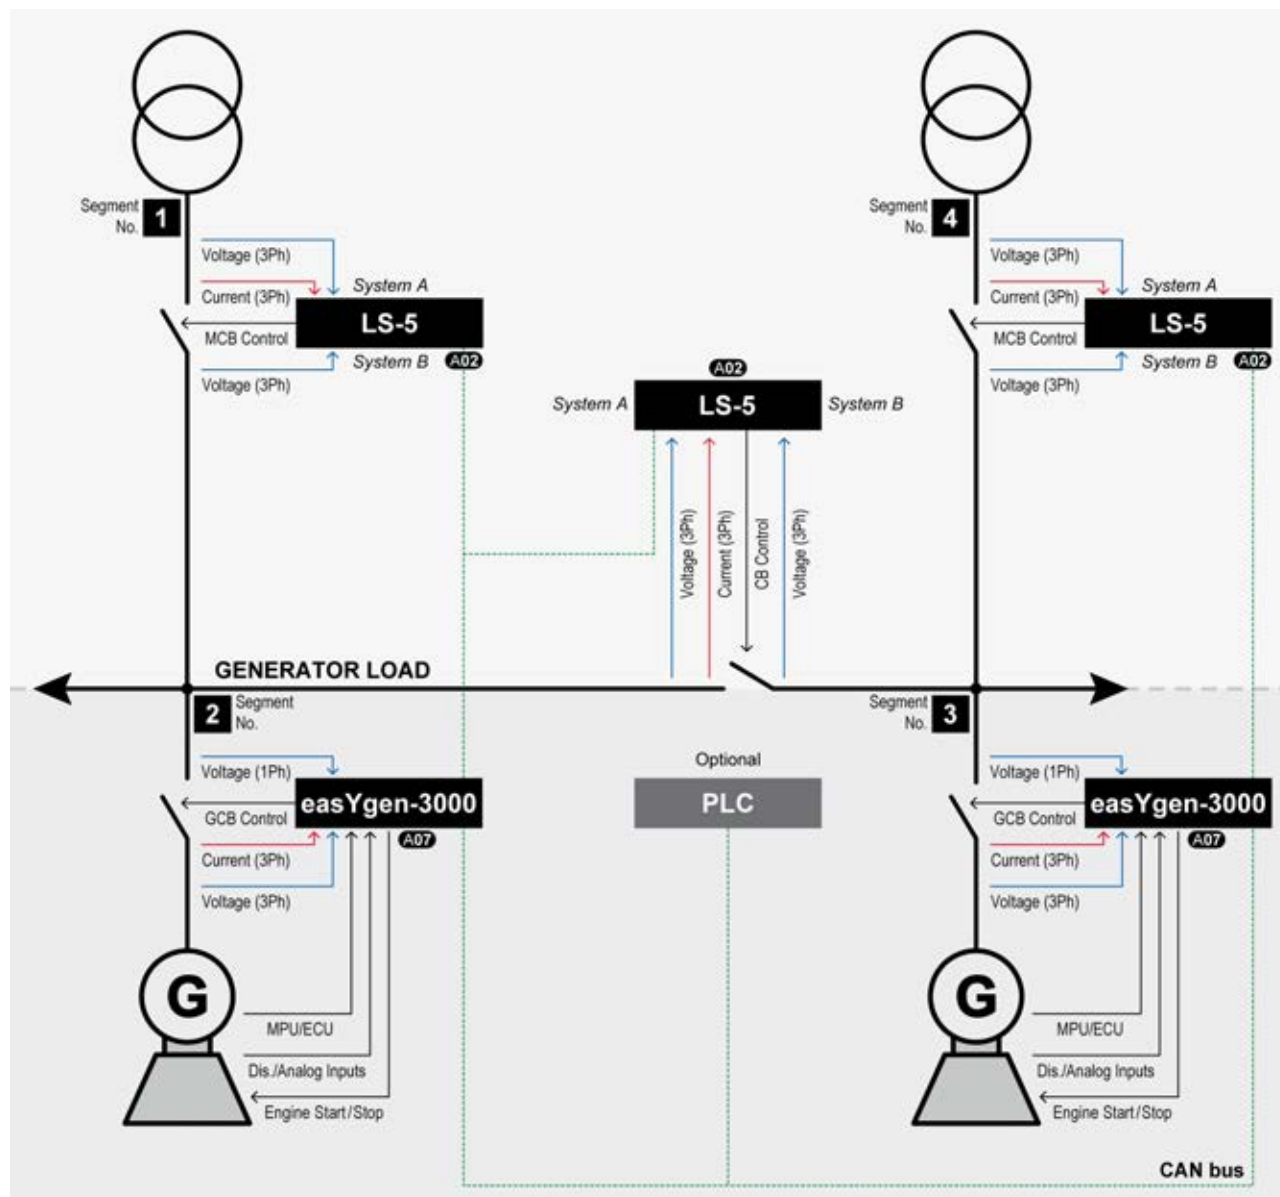

Fig. 98: H-Configuration with two easYgen and two incoming mains and tie-breaker
One or more genset(s) feed on a generator/load busbar (Fig. 98/ Segment No. 2). One or more genset(s) feed on a generator/load busbar (Fig. 98/Segment No. 3). A tie-breaker is located between the both generator/load busbars. Each generator/load busbar has its own incoming mains breaker (Fig. 98/ Segment No. 1/4).
1. ➤ The system A voltage and current measurement is connected to the generator/load busbar segment (Fig. 98/Segment No. 2).
2. ➤ The system B voltage measurement is connected to the generator/load busbar segment (Fig. 98/Segment No. 3).